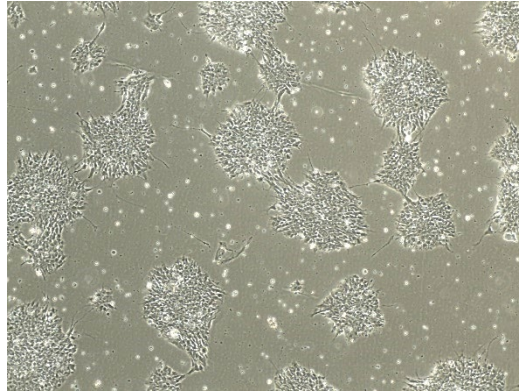

Figure 4. Bright-field phase-contrast of NCRM1 iPSCs 6 days after plating in motor step 2 media.
12. Six days after plating in motor step 2 media (day 12 of protocol), cells should be 70% to 90% confluent and start to pile up (Figure 4). Repeat steps 8 to 11 in motor step 3 media.